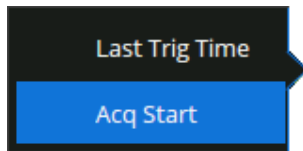

Figure 9.29 Start Holdoff On
- The window shown in figure 9.29 will appear.